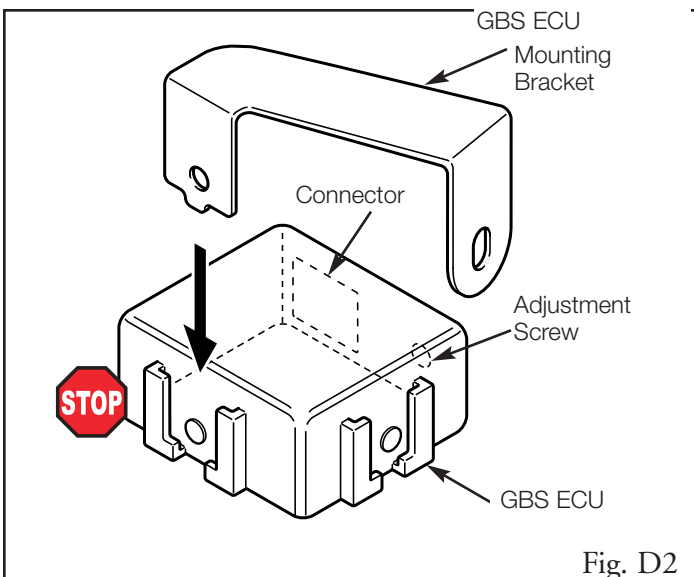

Fig. D2
2. Insert the GBS ECU mounting bracket into the indicated bracket slot on the GBS ECU. (Fig. D2)